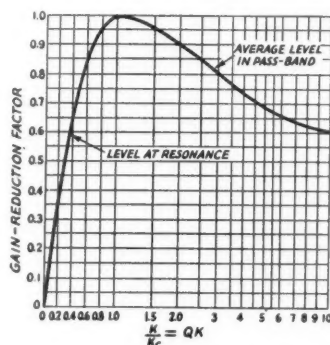

Fig. 6 — Output level as a function of coupling.
As a result of the lack of reflected resistance at low values of coupling and double-humping when circuits are over-coupled, the resonant-frequency gain at couplings other than critical are always less than at critical. Fig. 6 shows how the gain-reduction factor varies for various values of Qk . The curve is plotted for resonant gain for values of Qk below critical coupling and average pass-band gain for values of Qk above critical coupling.
For the above example of i.f. transformer design, $Qk = 2$, and Fig. 6 shows that this corresponds to a gain-reduction factor of 0.9; that is to say the gain is 0.9 of that given by Eq. (17).